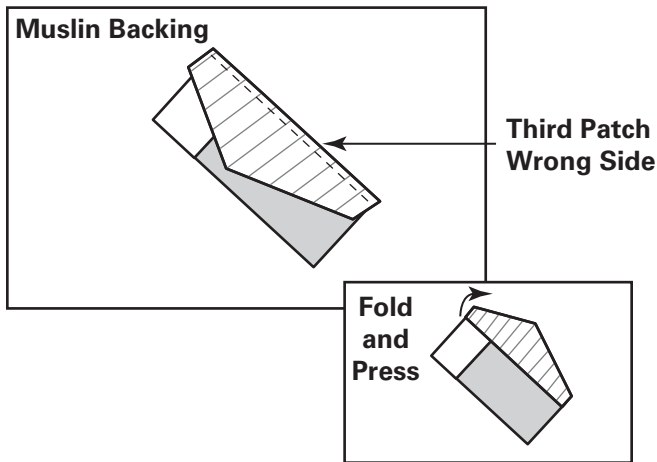

Fig. 9-4
5. Cut a third patch in the same manner. Place it right side down on the first two patches. Align one edge with any edge of the first two patches. Stitch along the aligned edges. Fold the patch right side up and press. (Fig. 9-4)